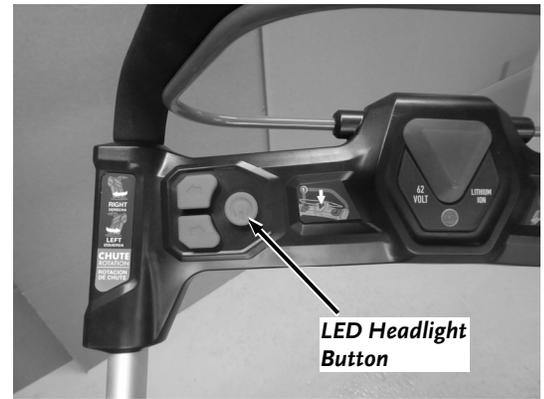

Figure 11
1. Push the LED Headlight Button to turn the Headlights on (**Figure 11**).